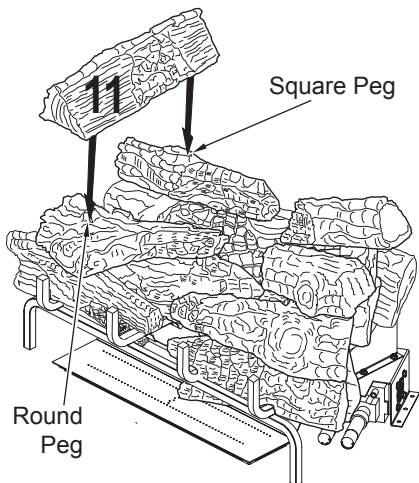

Figure 32 - Installing Log # 11
- Place the left top log (#11) on top of the left back top log (#5) and left top forked log (#6) as shown in Figure 32, page 19. Match the round peg on the top of the left top forked log (#6) with the round hole on the bottom of the top left log (#11) and rectangular peg on the top of the left back top log (#5) with the rectangular hole on the bottom of the top left log (#11).